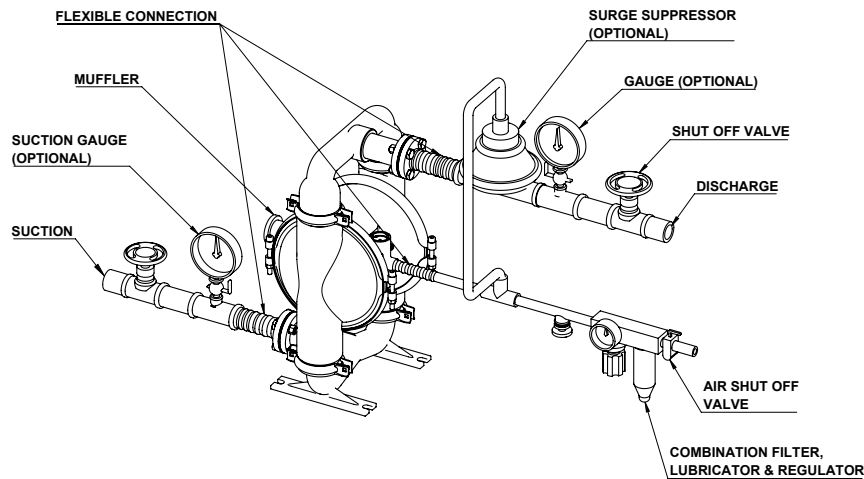

Figure 1
see section on safety if used in hazardous area) See Figure 1. Suction, non-collapsible. A minimum number of bends and fittings to be used. A flexible connection between suction, delivery and air supply piping is highly recommended such that piping stresses and loads do not transfer to pump housing.
- Please refer to Figure 1 and ensure that the piping system is independently supported and does not place a load on the pump.